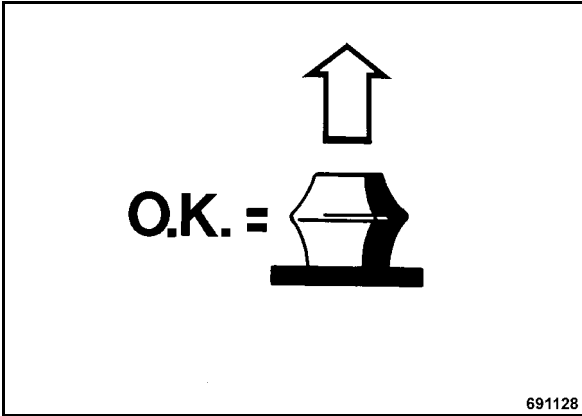

Fig. 83
- Check the air filter service indicator (Fig. 83).